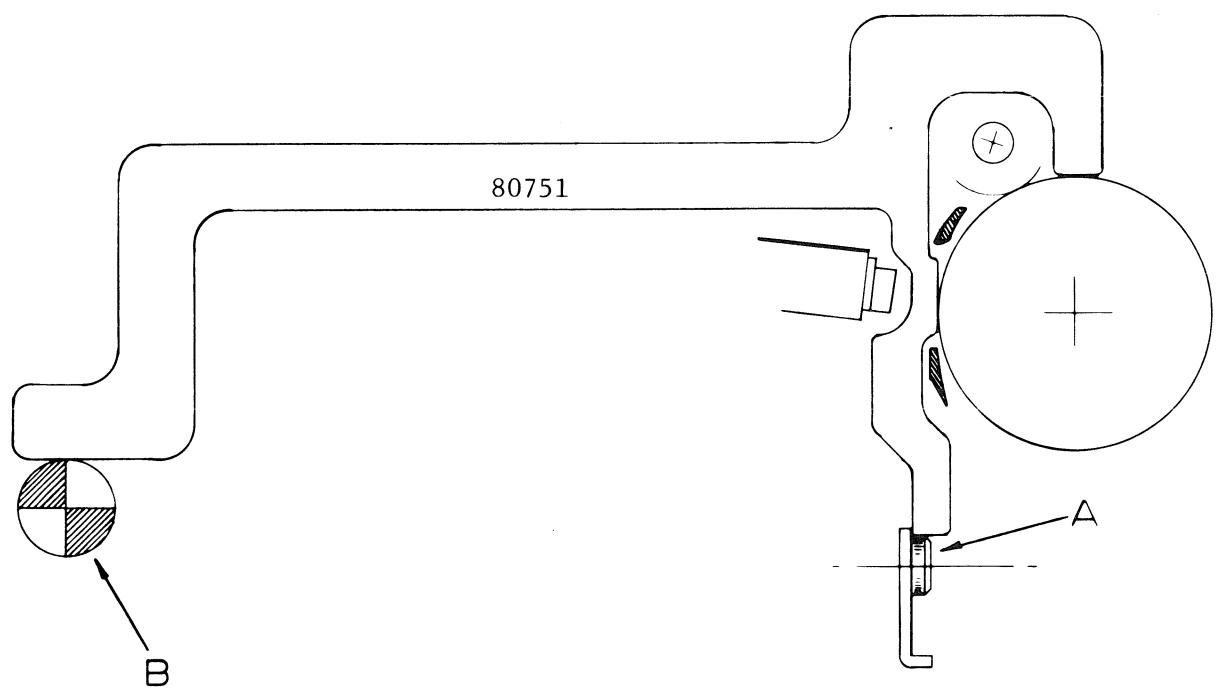
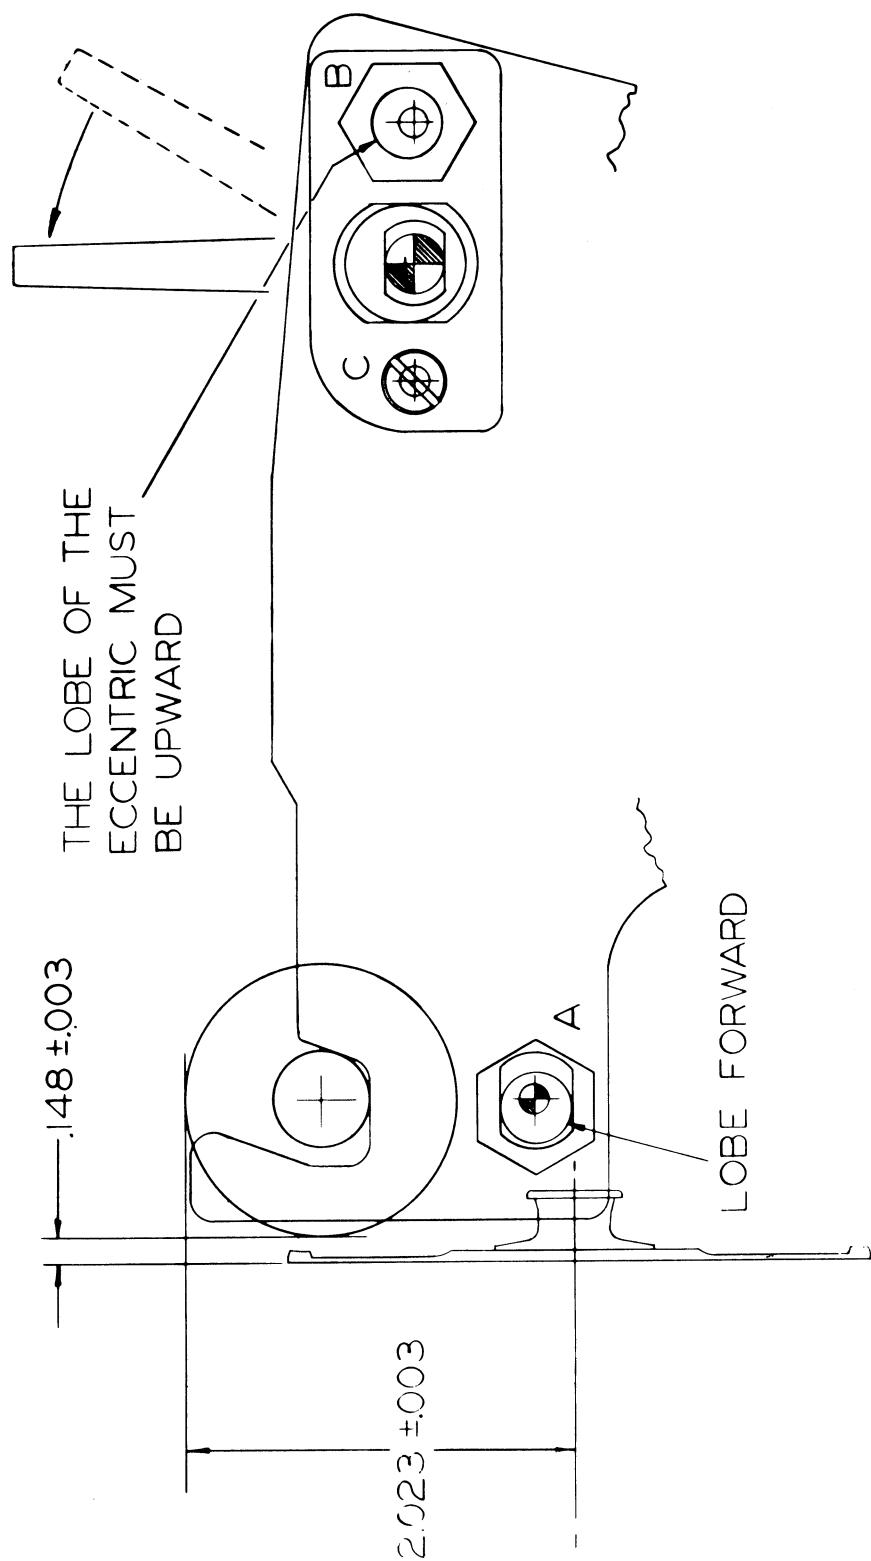

FIGURE 7-4
FIGURE 7-5
The middle section of the printer's cover must be removed for access to this adjustment. Tools required include a screwdriver, a 5/8" open-end wrench, and the alignment gauge, #80751 shown in Figure 7-4.
- (1) Place the forms thickness selector lever in its extreme forward position.
- (2) Refer to Figure 7-5 which shows the right platen carrier side plate. Loosen the two screws **(B)** and **(C)** which secure the depth adjustment.
- (3) Position the alignment gauge #80751 on the right side of the printer, as shown in Figure 7-4. The gauge rests on the printwheel hub **(A)** and on the forward carriage guide rail **(B)** and must be balanced or supported by hand. Try to keep the gauge approximately perpendicular to the platen's principal axis.
- (4) Use a 5/8" open-end wrench to rotate the eccentric anchor shown at **(B)** in Figure 7-5. Adjust this anchor so that the forward edge of the platen just touches the flattened vertical face on the alignment gauge (Figure 7-4).
This adjustment will normally be preceded by the platen depth adjustment just described. The printer's middle cover must be removed. The procedure calls for screwdriver, 5/8" open-end wrench, and the alignment gauge shown in Figure 7-4.
- (1) Refer to Figure 7-5, which shows the right side of the plate of the platen carrier. Loosen the screw **(A)** which secures the height adjustment.
- (2) Position the alignment gauge on the right side of the printer, as shown in Figure 7-4. The gauge rests on the printwheel hub **(A)** and on the forward carriage guide rail **(B)** and must be balanced or supported by hand. For the most accurate adjustment, try to keep the gauge perpendicular to the platen's principal axis.
- (3) Use a 5/8" open-end wrench to rotate the eccentric anchor shown at **(A)** in Figure 7-5. Adjust this anchor so that the upper edge of the platen just touches the horizontal face on the alignment gauge (Figure 7-4).
- (4) When you are sure that the adjustment is correct, tighten the retaining screw that was loosened in Step #1 above. This locks the anchor and completes the right side height adjustment.
- (5) Repeat Steps #1 through #4 on the left side of the machine.